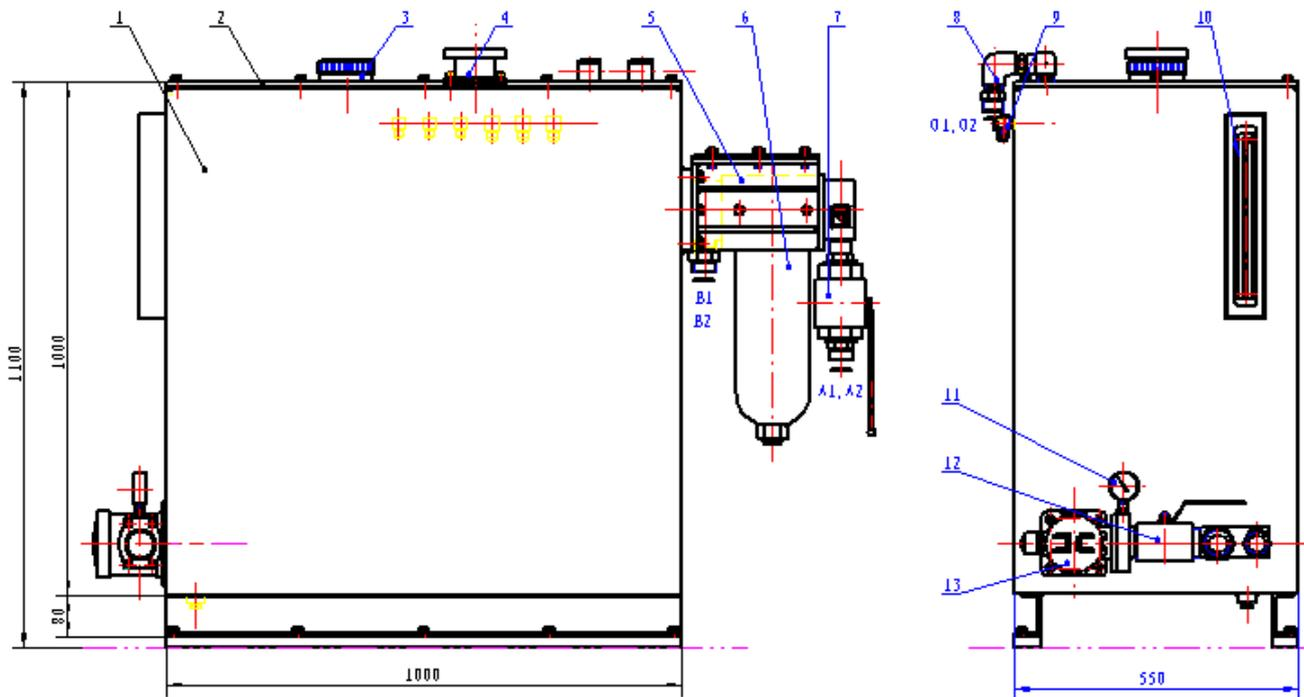

Fig 2-3 Oil Tank and Pipeline Filter
As indicated in Fig 2-3, the pipeline filters (suction filter and HP oil filter) are both installed on the Oil Tank (1). The oil storage level inside the Oil Tank (1) is 450L. The oil liquid is filled in through the Oil Filler Cap (3) on the top cover of oil tank, and the height of liquid level can be displayed from the Liquid Level Gauge (10). The hydraulic oil is exported to the oil compensation pump and the control pump through Suction Filter (13) after coarse filtration, and the sealing performance of pipeline may be observed from the Pressure Gauge (11).